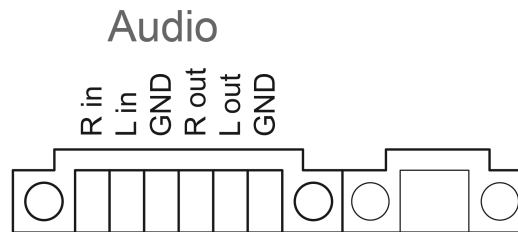

Figure 6: Connection assignment of audio connections
- Connect audio devices to terminal (13) (Figure 6).